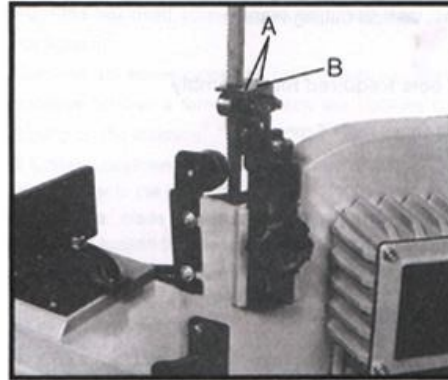

Fig. 3
3. Remove two screws (A, Fig. 3) and the deflector plate (B).